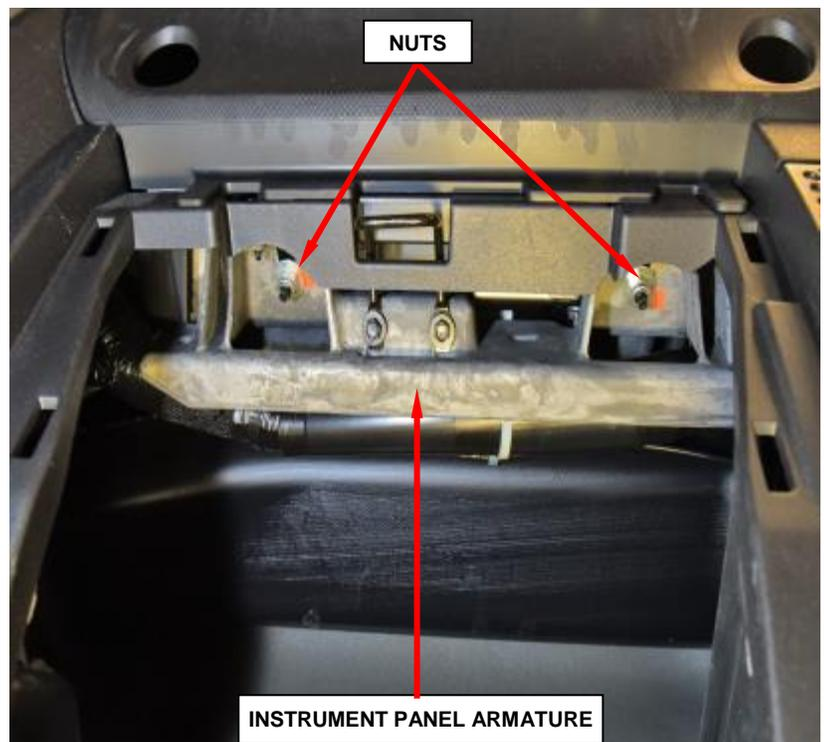

Figure 91 – Lower Passenger Airbag Nuts
6. Reach up into the instrument panel glove box opening to access and remove and **save** the two nuts that secure the passenger airbag lower studs to the instrument panel armature on each side of the glove box latch striker (Figure 91).